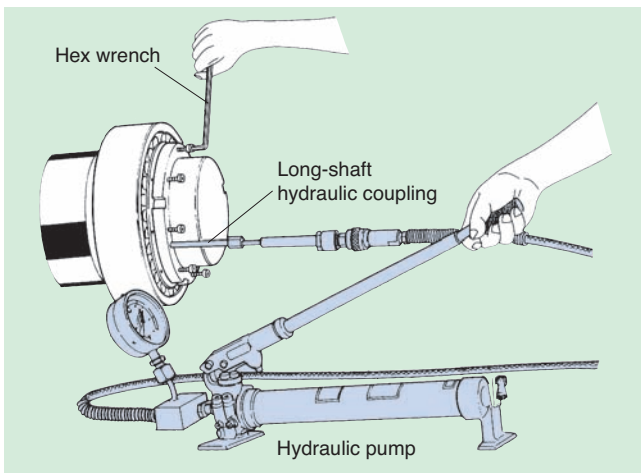

Fig. 16
- (5) Increase the hydraulic pump pressure while tightening the fastening bolts with a spanner and measure the bearing radial internal clearance with a thickness gauge, and tighten the bolts evenly until reaching the specified mounted clearance (see Fig. 16).